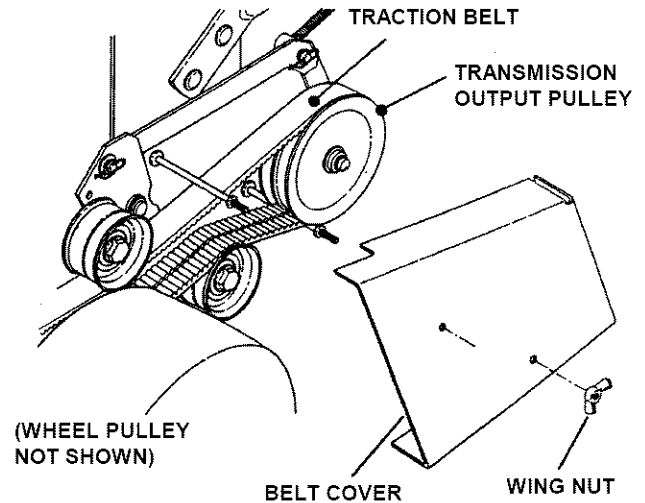

FIGURE 7.2
1. **STOP ENGINE!** Remove two wing-nuts retaining fender. Remove fender. See Figure 7.2.